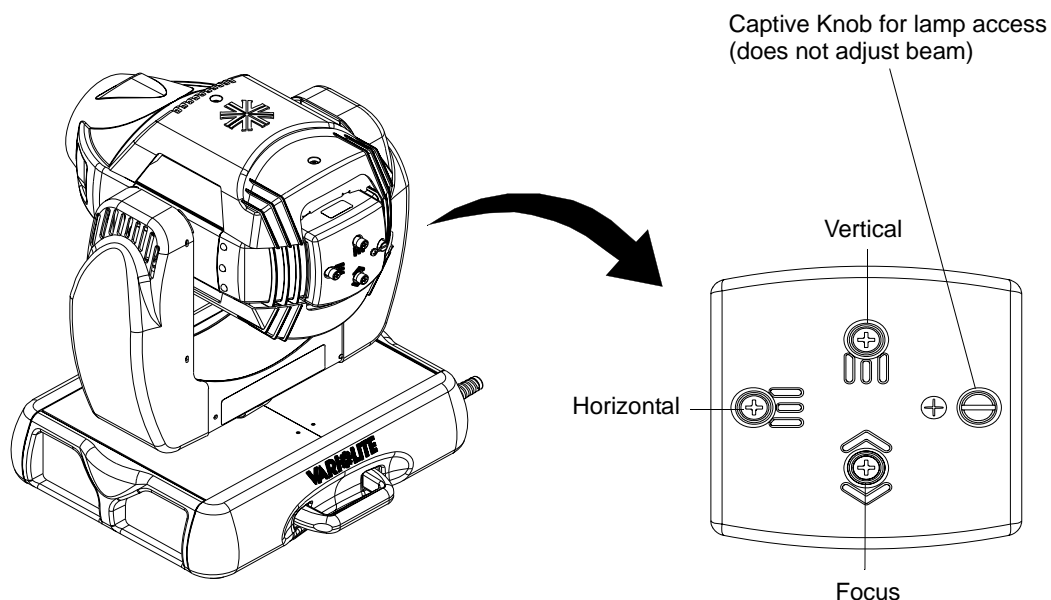

Figure 2-3: Aligning Lamp for Flat Field
- Step 3. At backcap, using Vertical and Horizontal knobs, adjust hot spot to center of beam (Figure 2-3).